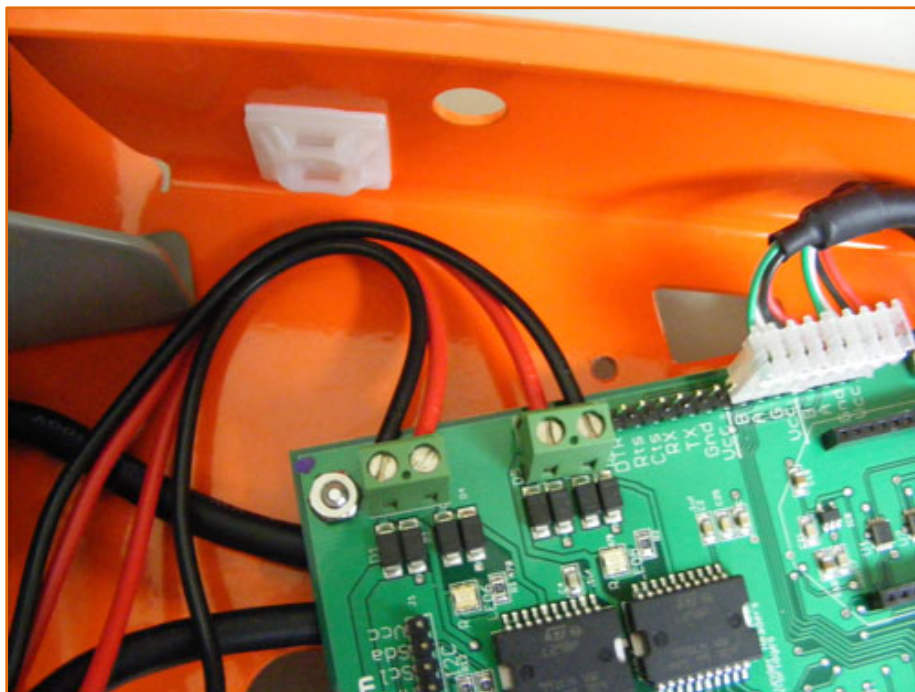

Figure 7 – Connecting motor wires to Serializer Port
- 5.) Run the motor wires over to the green motor terminals (see Figure 7), keeping the wiring close to the chassis. Cut the excess wire from the ends of the motor leads if you wish. **Make sure that you don't cut them too short!!!** You can actually leave them the stock length if you wish. Then, strip $\frac{1}{4}$ ", or 5mm, of insulation from the ends, as shown below.